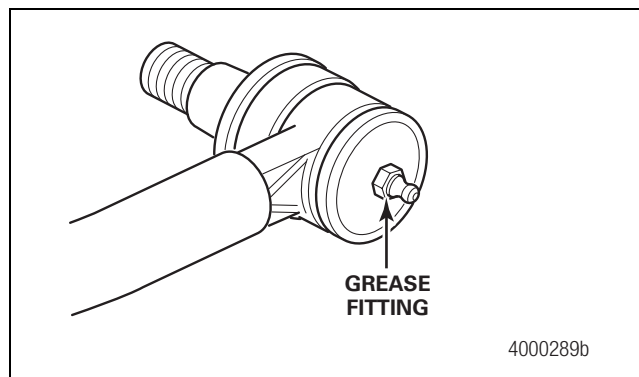

Figure 4.11
- **If the tie rod ends are non-greaseable:** Do not install a grease fitting. Figure 4.11.